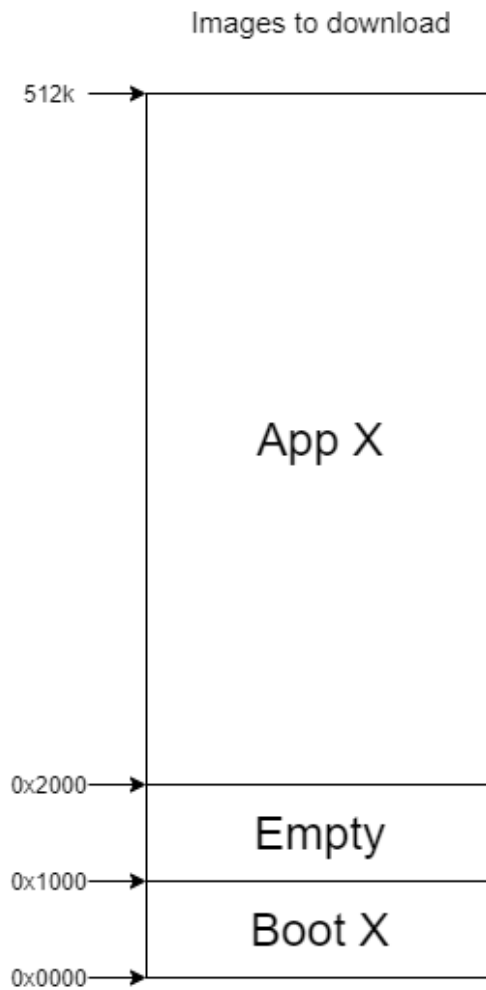

Figure 2
Figure 2 shows a physical representation of the memory layout of the application project. Notice that the memory segments Boot A and App are filled but Boot B is empty.
- The Empty section from address 0x1000 to 0x1FFF will hold the boot section of the application project (Boot X from Figure 2)
- The Empty section from address 0x2000 to the top of memory is used to hold the app section of the application project (App X from Figure 2)